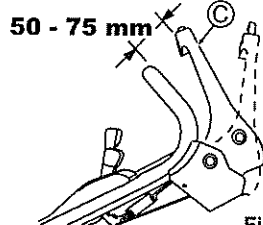

Fig. 25.
Adjust so that the blade starts rotating when the distance between Blade lever (C) and the handle is 50 - 75 mm with the yellow button pressed as shown in Fig. 25.